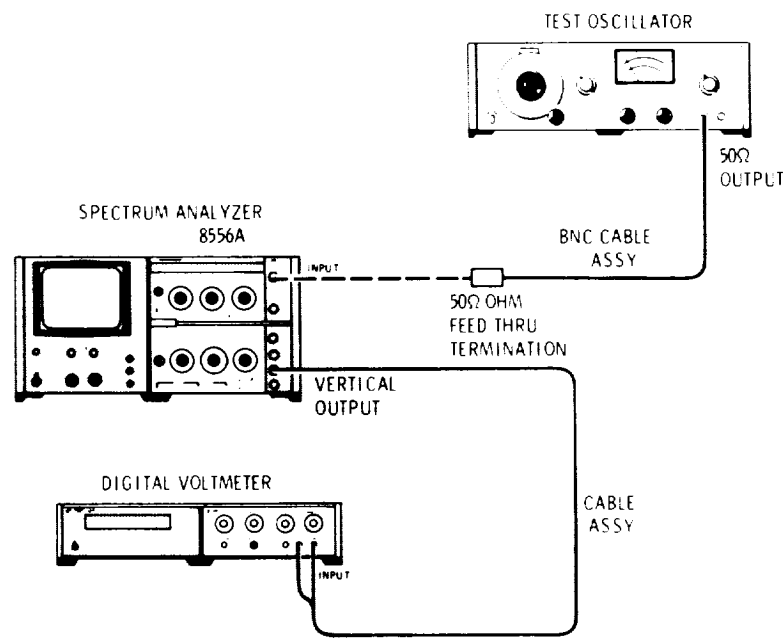

Figure 4-13. Input Level Control and Gain Compression Test Setup
1. Connect equipment as shown in Figure 4-13, connecting the Test Oscillator to INPUT through the 50 Ohm Feed Thru Termination and the Digital Voltmeter to VERTICAL OUTPUT.